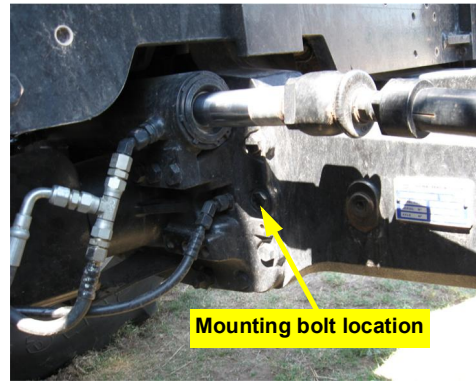

Figure 2a: Differential bolt location
- a. Locate the front axle differential housing on the tractor. Remove the middle vertical differential bolt on the right side of the axle (Figure 2a).